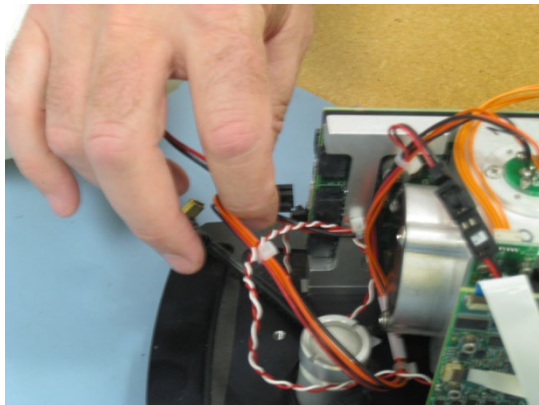

Figure 28. Disconnecting the laser/source power harness.
- 5 Disconnect the laser/source harness from the power board. The laser/source harness is identifiable by its 6-pin connector and orange, black and red wire combination (see Figure 28).